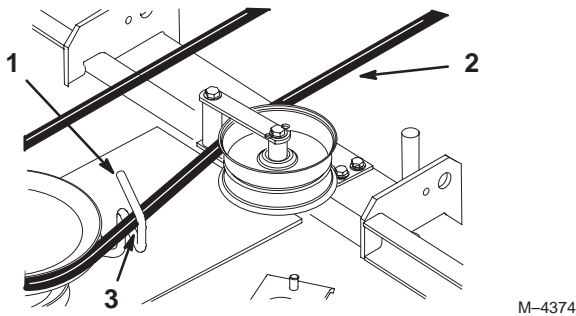

Figure 65
11. Rotate the belt guide, on rear of the mower, so it is 1/8-1/4 inch (3-7 mm) away from the vertical side of the PTO belt (Fig. 65).